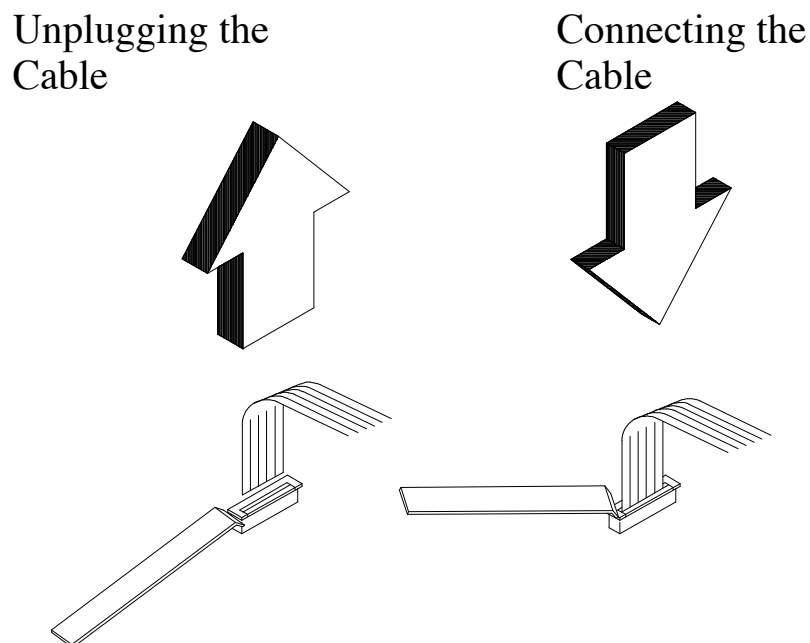

Figure 6-1 Removing/Installing Cables with Locking-Type Connectors
- ◆ Locking-type connectors - use a plastic stick to unlock and lock these type of connectors as shown in Figure 6-1.